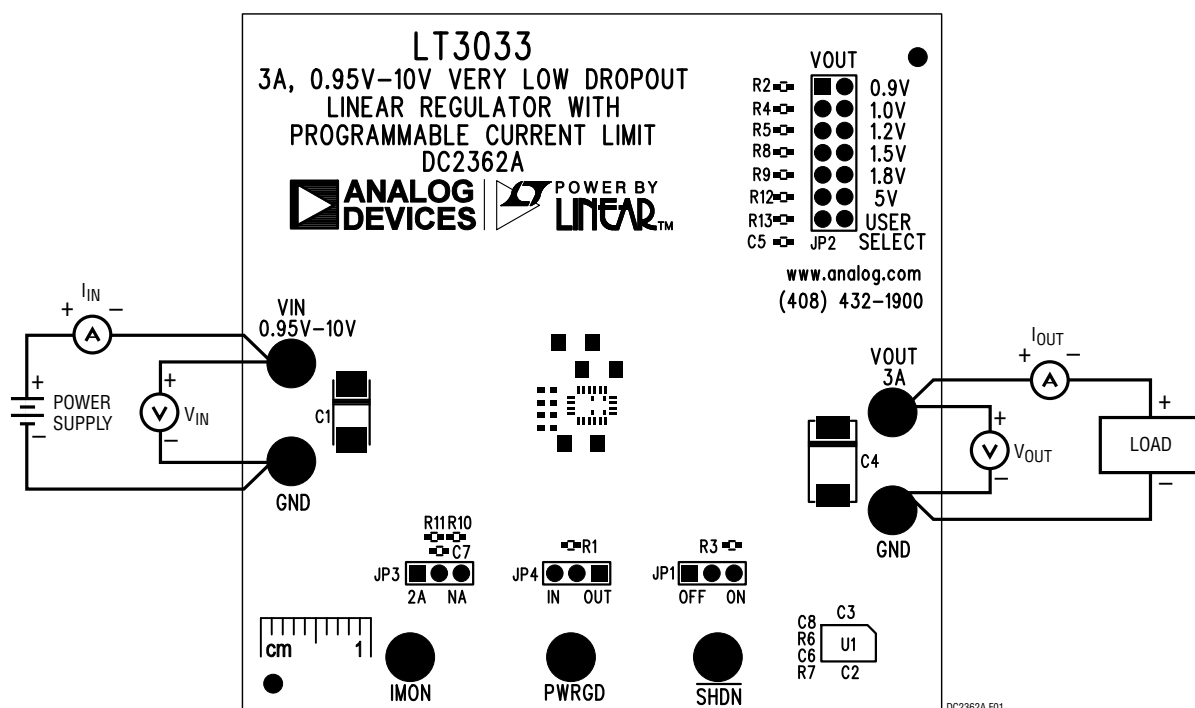

Figure 1. Proper Measurement Equipment Setup
Demonstration circuit 2362A is easy to set up to evaluate the performance of the LT3033. Refer to Figure 1 for proper measurement equipment setup and follow the procedure below.
2. With power off, connect the power supply, load and meters as shown in Figure 1.